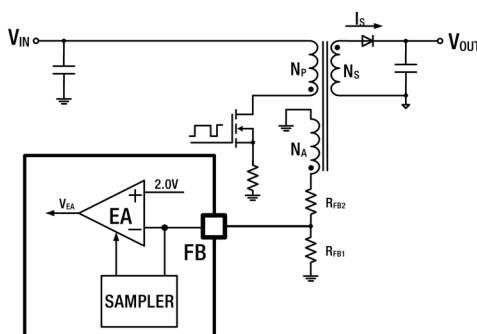
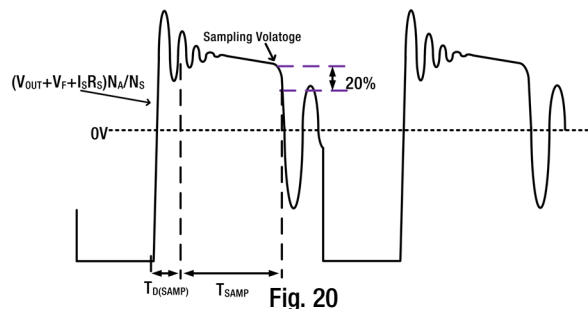

Fig. 19
Fig. 20
RVPW015 can sense the output voltage of the switching power supply by monitoring the auxiliary winding of the transformer. A sampling resistor connected to this auxiliary winding is tied to the FB pin. During the transformer's demagnetization phase, the voltage across the auxiliary winding is sampled and used as the negative input to the internal error amplifier (EA). This voltage is then differentially amplified against a fixed positive reference voltage, $V_{REF(REG)} = 2V$, to generate the duty cycle modulation voltage, V_{EA} , which is used to regulate the duty cycle of the converter. As illustrated in Figure 19, this process ensures that the converter adjusts its switching behavior to maintain output voltage regulation. The waveform of the auxiliary winding voltage during this process is shown in Figure 20. Once the control loop reaches a steady state, the sampled voltage at the FB pin stabilizes at the 2V reference voltage of the EA. Based on this steady-state condition, the output voltage of the converter can be calculated from the relationship between the auxiliary winding, the feedback resistors, and the output parameters.